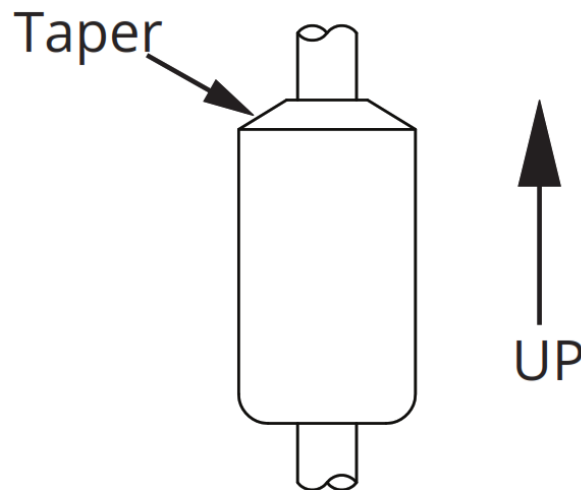

Figure 5.1
- The float(s) is/are oriented properly on the stem (See Figure 5.1 below). MPI-E floats will be installed by the factory. MPI-R floats are typically installed by customers.